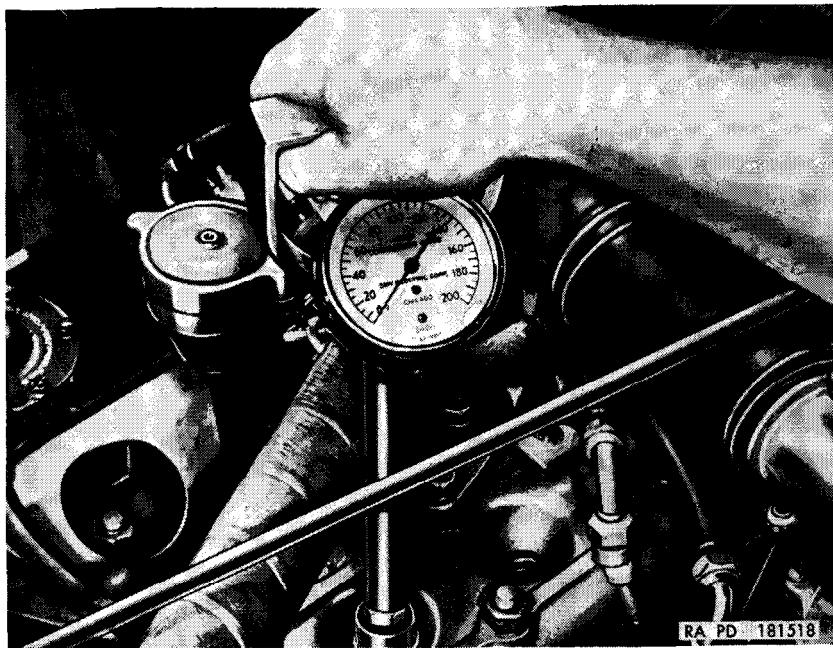

Figure 20. Checking engine compression.
- (1) *Lack of fuel.* Check fuel gage on instrument panel with ignition switch turned on, and also check actual level in fuel tank to be sure there is sufficient fuel for operation and that fuel gage is operative.
- (2) *Engine is wet.* Although engine is waterproofed, it is possible for moisture to collect due to seepage, loose connections, or condensation. Wipe all moisture from distributor terminal housing, distributor cap, coil, and spark plugs.
- (3) *Engine is too hot.* If engine is hot, either vapor lock or "percolation" might exist. Vapor lock is due to the vaporization of fuel before it reaches the carburetor and as a result the engine is starved for fuel. "Percolation" is caused by the fuel vaporizing in the carburetor passages. The bubbles rise, pushing the fuel above them into the carburetor throat. Vapor lock may occur when the vehicle is under load and can slow or completely stop vehicle. "Percolation" occurs only as the engine speed is reduced or when the vehicle is standing and engine is idling. To start a vehicle which has vapor locked or "percolated," press the accelerator pedal to floor board and crank engine until it starts. Do not pump accelerator pedal as this action will cause flooding of the engine.
- (4) *Engine is flooded.* Press accelerator pedal to floor board and crank engine until it starts.
- (5) *Insufficient cranking speed.* Refer to paragraph 82c.
- (6) *Lack of current at spark plugs.* Refer to paragraph 81.
- (7) *Fuel does not reach carburetor.* Refer to paragraph 79.
- (8) *Faulty ignition timing.* Refer to paragraph 142.
- (9) *Poor engine compression.* Perform an engine compression test as follows—remove all spark plugs and spark plug gaskets (par. 145). Block carburetor throttle linkage in open position to assure a full charge of air in the cylinders. With ignition switch off and a compression gage in position in one cylinder (fig. 20), crank engine with starter until compression gage pointer no longer rises. Note compression reading on gage. Reset compression gage to zero after checking each cylinder. Record compression pressure for each cylinder on DA Form 461. Compare the compression pressures of the cylinders. Normal compression pressure is 135 psi. Minimum compression pressure is 100 psi. Cylinder compression pressures should not vary more than 20 psi. If pressures do vary more than 20 psi, or are lower than 100 psi, notify ordnance maintenance personnel.